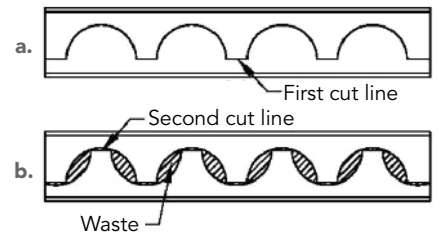
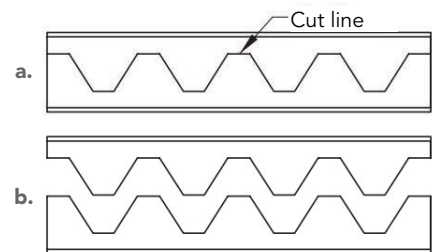

Fig. 1.
Fig. 2.
- 9 **False.** Cellular beams have round openings in the webs and castellated beams have hexangular openings. In order to achieve the repeating circular cutting pattern for cellular beams, two cutting passes are required (see Figure 1). Only one pass is required by castellated beams, as shown in Figure 2. As a result, the time to produce a cellular beam is slightly greater than that of a castellated beam. More information can be found in AISC Design Guide 31.